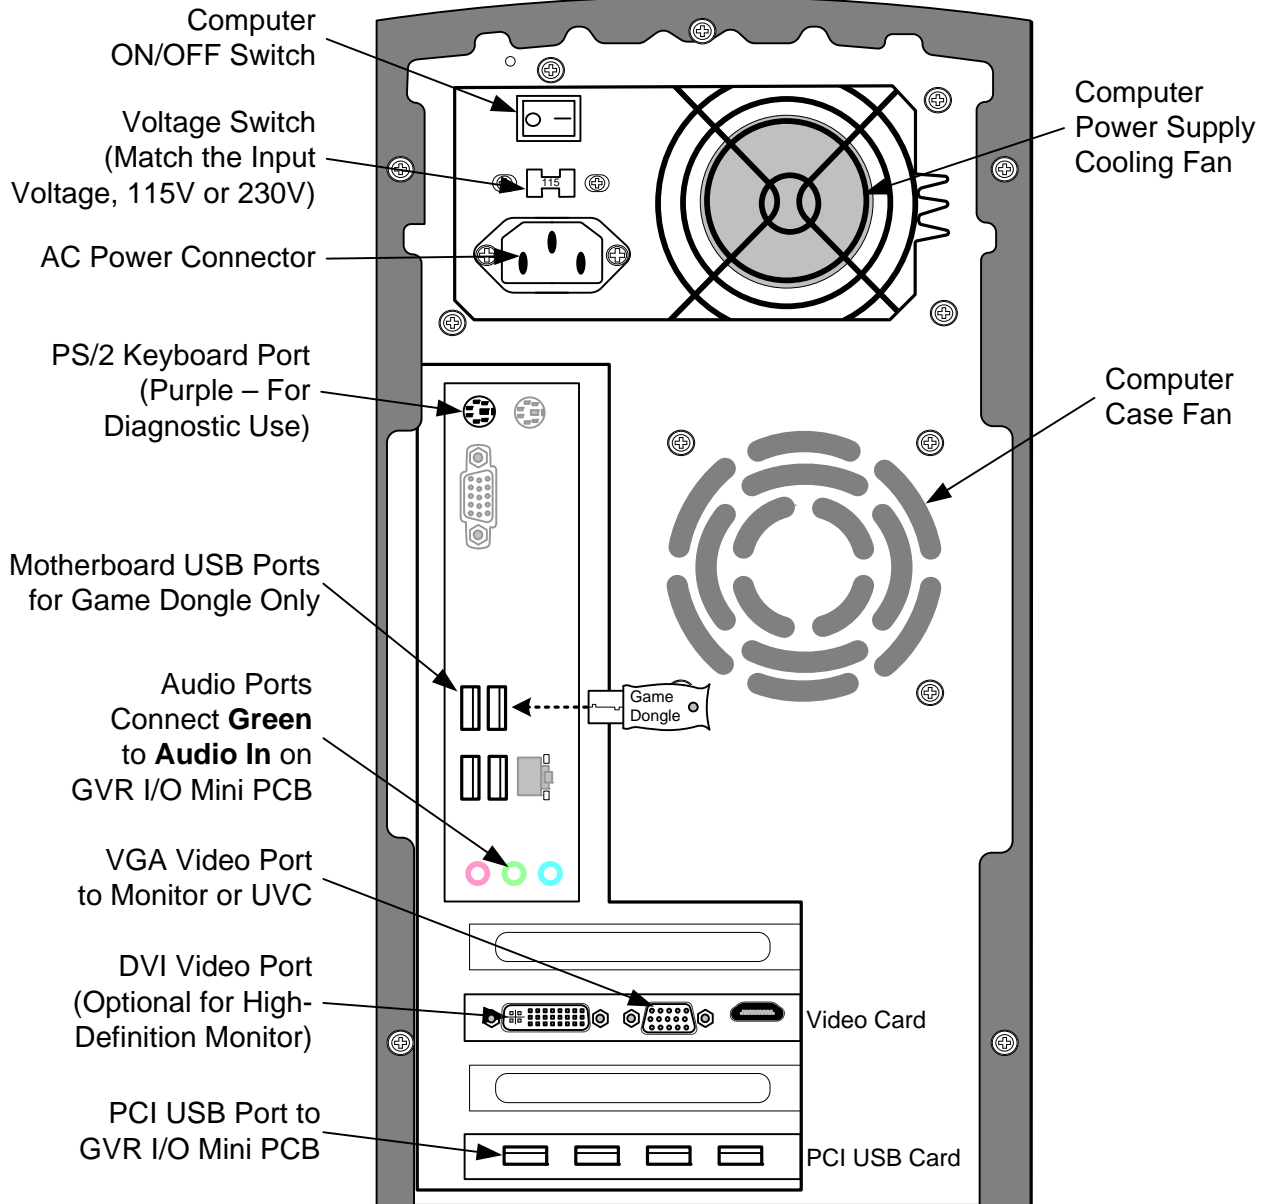

Figure 14. Computer Rear Panel Diagram
11. Refer to *Figure 14. Computer Rear Panel Diagram*, on page 21 when making connections to the computer.